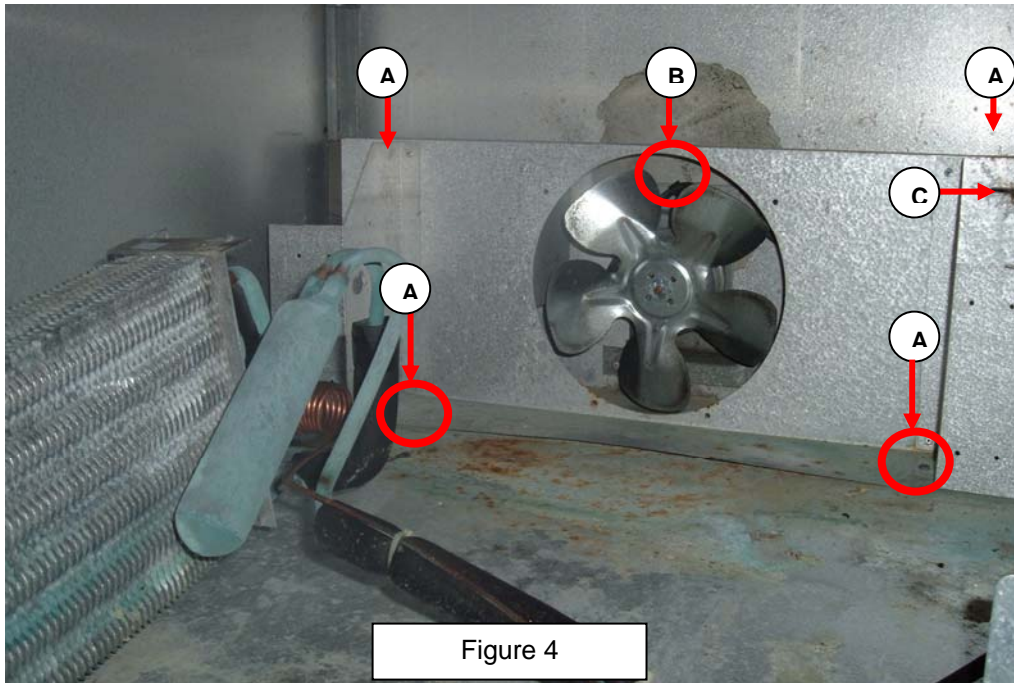

Figure 4
8. Carefully move the Evaporator Counter-clockwise as shown in Figure 4. ***Be careful not to kink or bend the refrigeration tubing.***
9. Remove the screw securing the P Clamp and fan motor (Figure 4 marked “B”).
10. Remove the Screws, identified with arrows marked “A” in Figure 4, from the Evaporator Fan Shroud.
11. Carefully remove the Cold Control Sensor, marked “B” in Figure 4, from the Evaporator Fan Shroud.